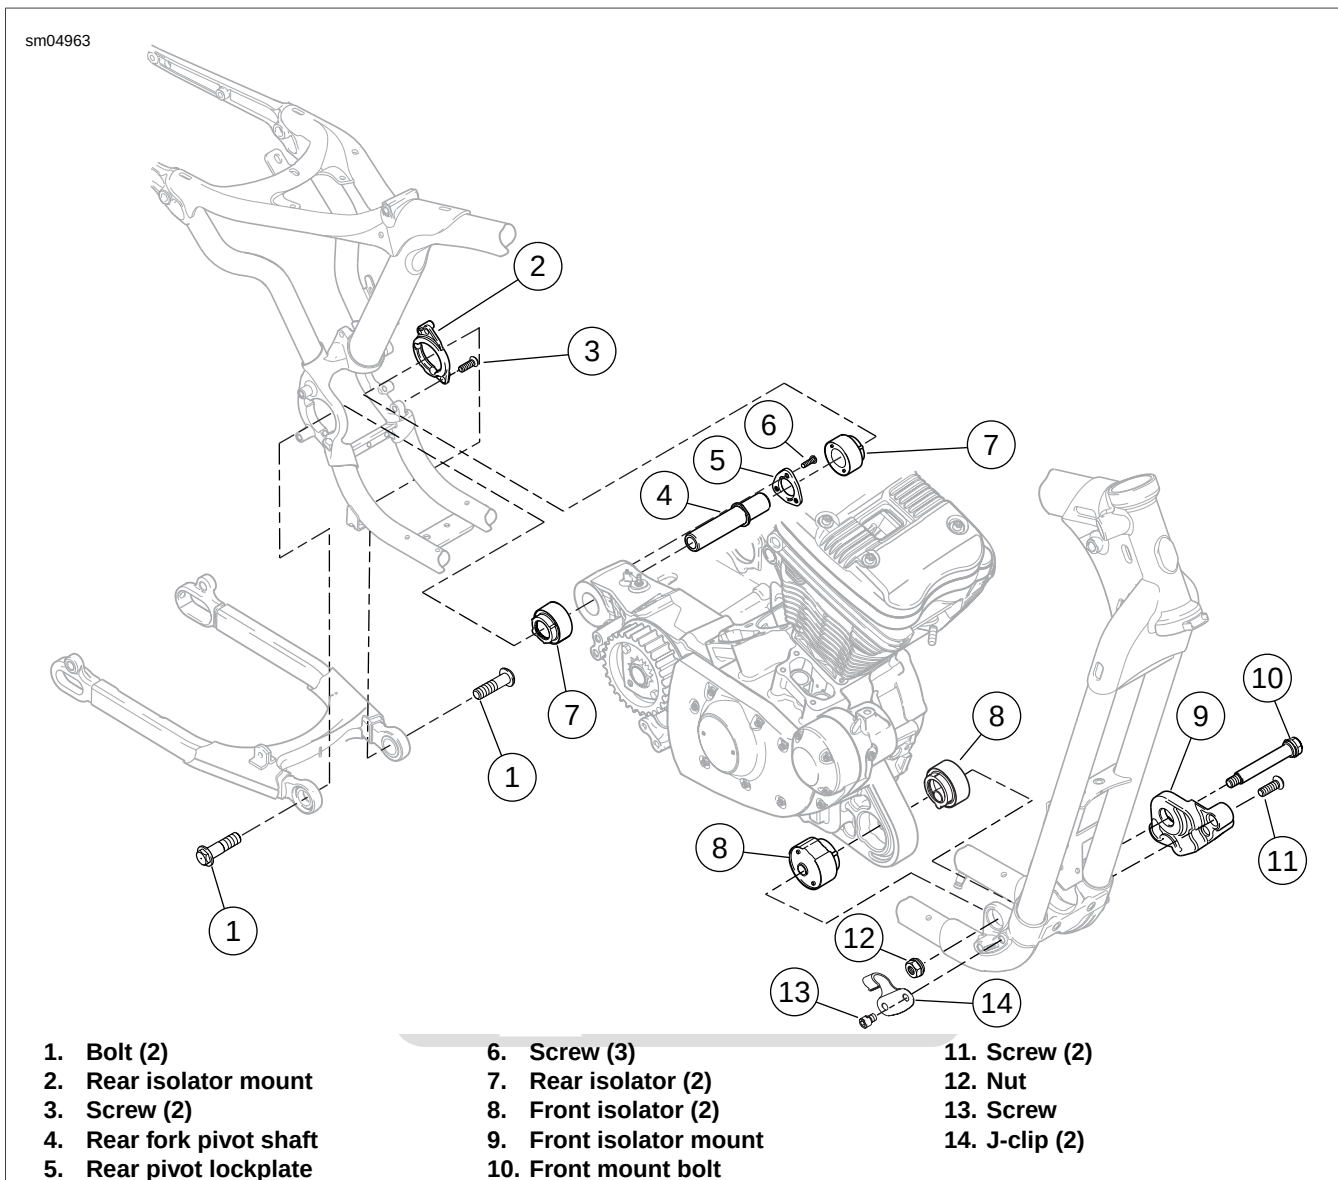

Figure 3-18. Engine Mount/Isolator Components (typical)
35. See Figure 3-18. Remove fasteners (13) and j-clip (14) from each side of frame.
36. Loosen, but do not remove, two front isolator mounting bracket screws (11) on left side of engine.
37. Loosen, but do not remove, two rear isolator mounting bracket screws (3) on left side of engine.
39. Remove front engine mount bolt (10) and nut (12).
40. Remove two screws (11) and front isolator mount (9).
41. Remove two rear engine mount/rear fork pivot bolts (1). Pull rear fork back until fork pivot bosses clear the frame.
43. Remove two screws (3) and rear isolator mounting bracket (2) from frame.